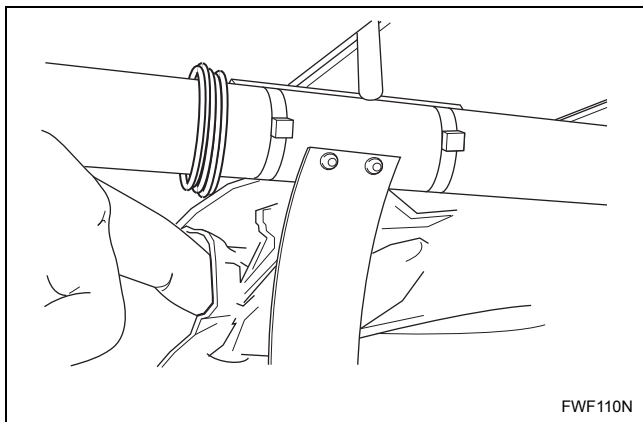
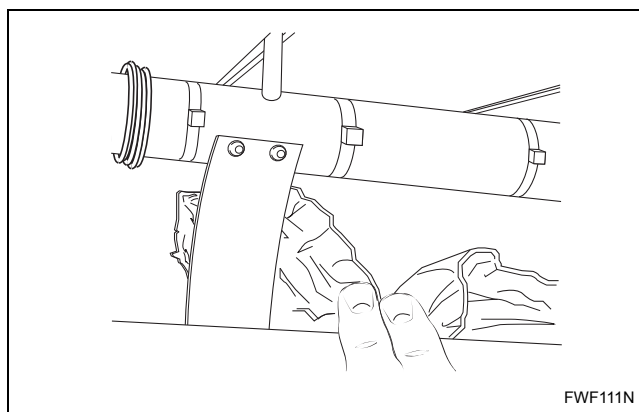
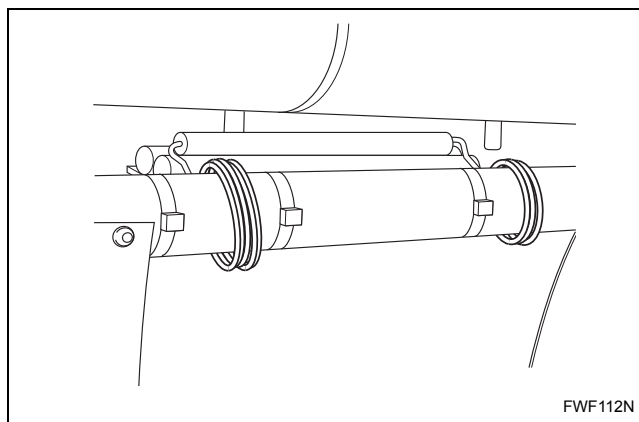

Figure 9
Figure 10
Figure 11
- b. Remove protective paper manually. Be especially careful around separation blade and temperature sensor. Refer to *Figure 9*, *Figure 10* and *Figure 11*.